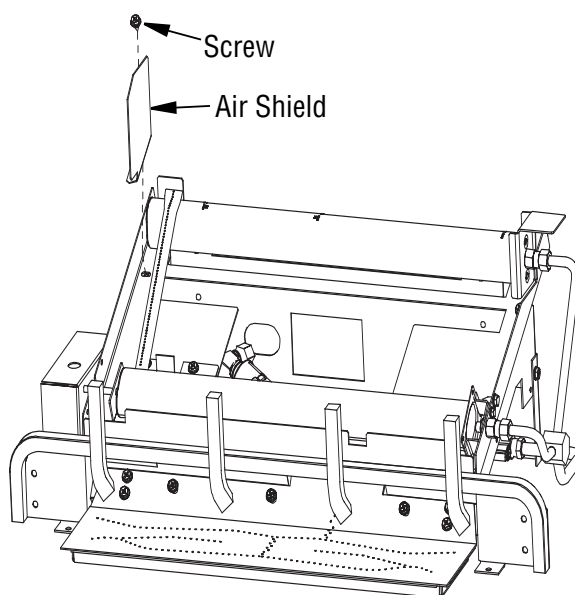

Figure 28 - Removing Air Shield
- Before placing any logs on the chassis you will need to remove the Air Shield located on the left side near the rear burner as shown in **Figure 28**. The Air Shield is held in place with one screw, remove the Air Shield and place the screw back into the hole in the chassis. Place the Air Shield with you owner's manual and keep.